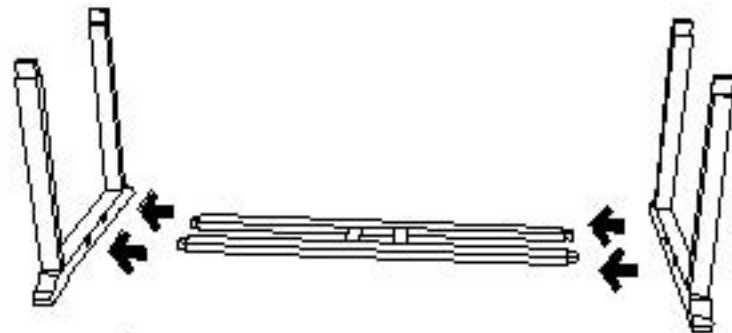

fig 2.
3. Insert the legs support and insert the other leg. (Fig. 2)